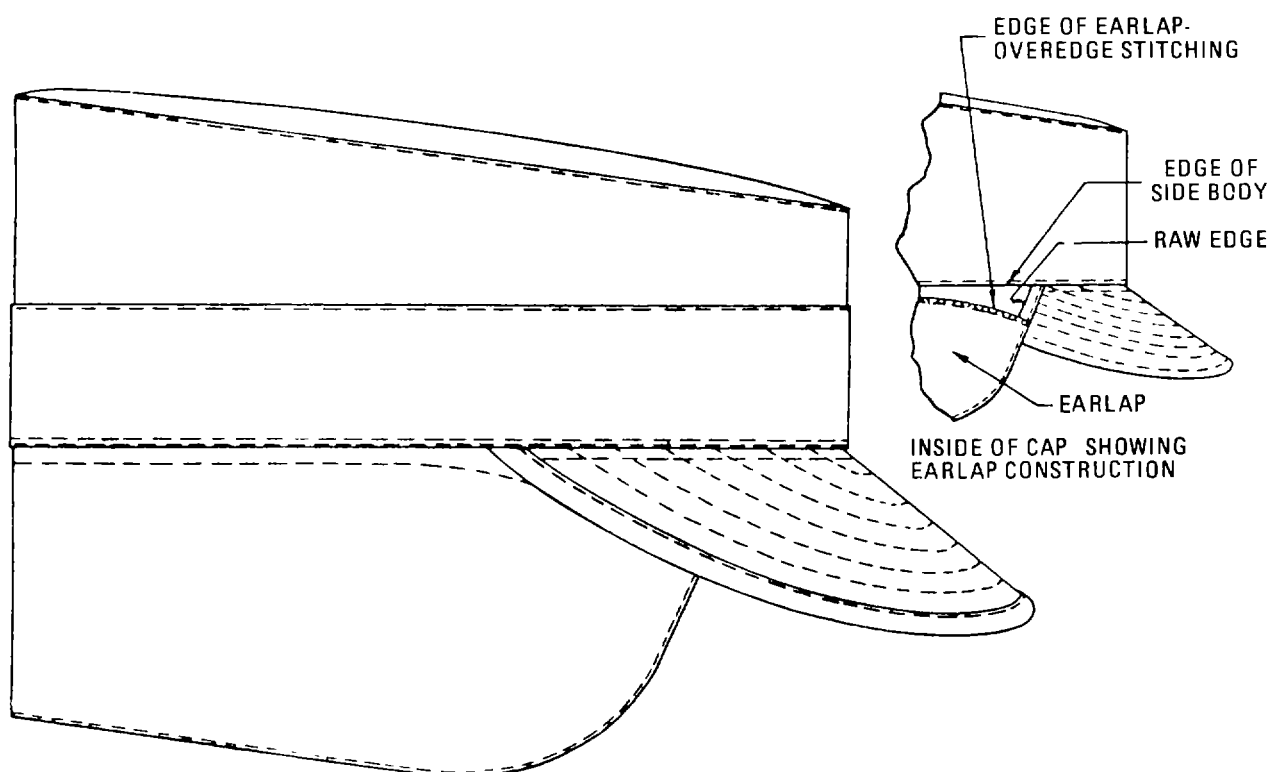

Figure 8-5. Cap, combat, woodland camouflage pattern
- (2) The detachable camouflage headnet is made of nylon netting materiel, extremely light-weight, weighing only a few ounces.
- (3) A standard camouflage style jungle hat which is comparable in design but which is made from basic fabric with camouflage pattern. The brim of the camouflage hat is 3 inches (7.62 cm) in lieu of 2-1/2 inches (6.35 cm) wide for the standard hat brim
- e. Cap, Camouflage Pattern. Cotton and nylon oxford cloth, quarpel treated, woodland camouflage pattern, MIL-C-1911, NSN 8415-01-134-3175 through 8415-01-084-1688. This cap is fabricated essentially of cotton warp and nylon filled oxford cloth, 5 3 oz, woodland camouflage pattern with visor. The earflaps are lined with wool and nylon flannel. It is intended for wear with the temperate battledress uniform (fig. 8-5).